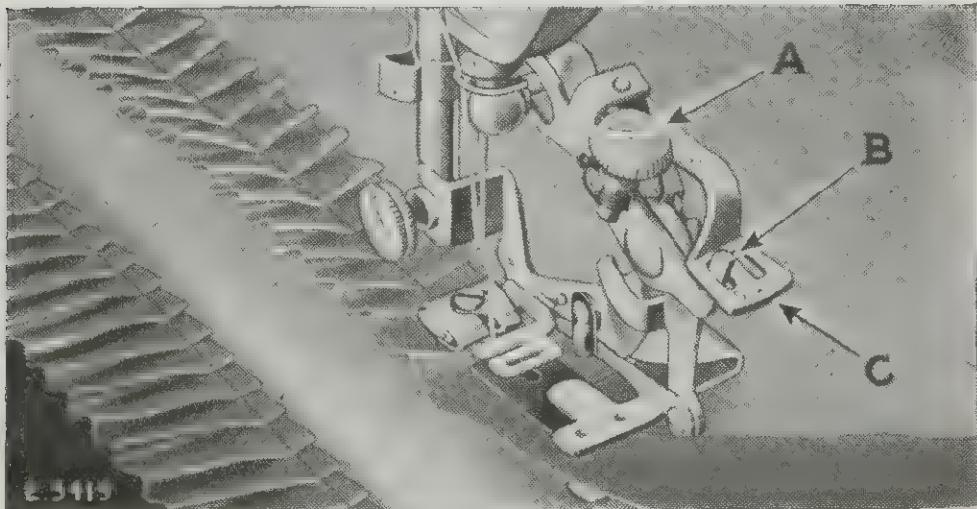

FIG. 34
**To make a gather or plait at every fifth stitch,** raise the adjusting lever (C, Fig. 34) and
move it to the right so that the projection (B, Fig. 34) will enter the slot marked "5" in the adjusting lever when the lever is released. The ruffling blade will then move forward and back once every five stitches. The fullness of the gathers or plaits is regulated by the thumb screw (A, Fig. 34) and the length of stitch. To make a fuller gather or plait, turn the thumb screw (A) down, also lengthen the stitch. To make a finer gather or plait, turn the thumb screw (A) up, also shorten the stitch.